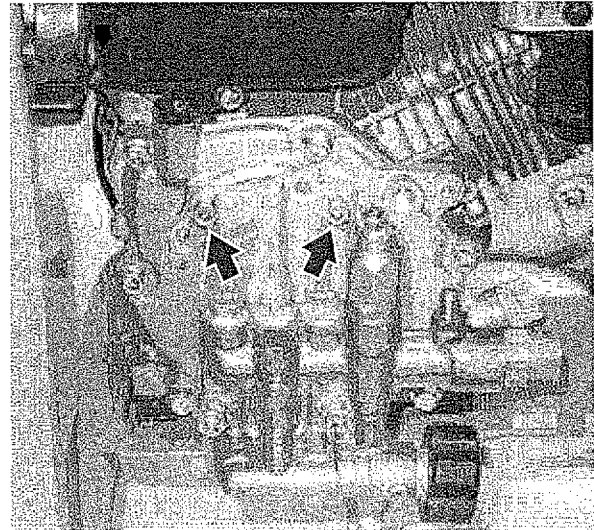

Figure 74 – Pump Mounting Bolts
- Remove the 4 mounting bolts holding the pump to the engine (see Figure 74).
- Slide the pump out off of the crankshaft (see Figure 74).